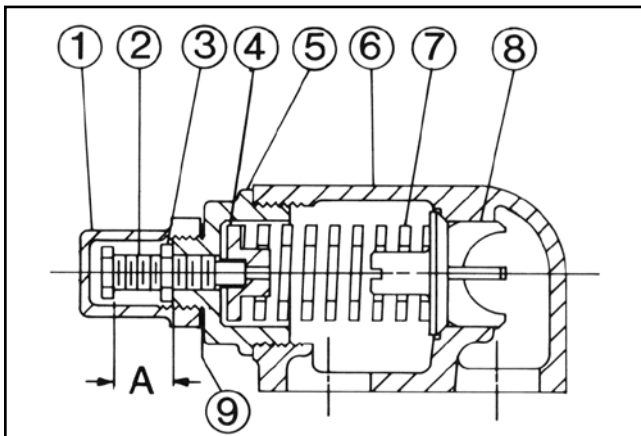

FIGURE 26
2. Measure and record the length of extension of the adjusting screw. Refer to "A" on Figure 26.